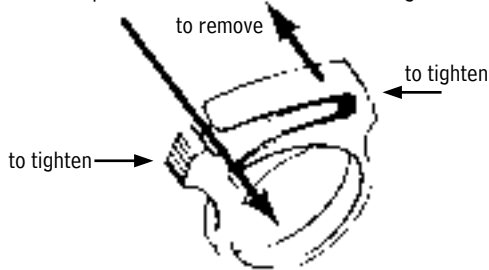

Figure 3
1. Remove nylon clamp from the breathing tube (see Figure 3). Do not remove foam from inside the breathing tube, used with RT Series Airline Respirators. The foam helps reduce the noise level of incoming air.